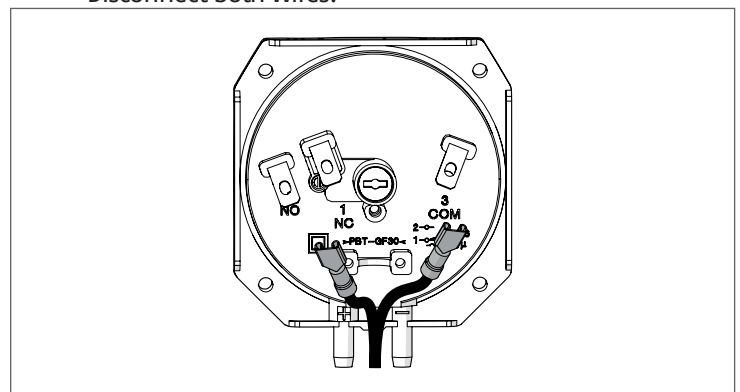
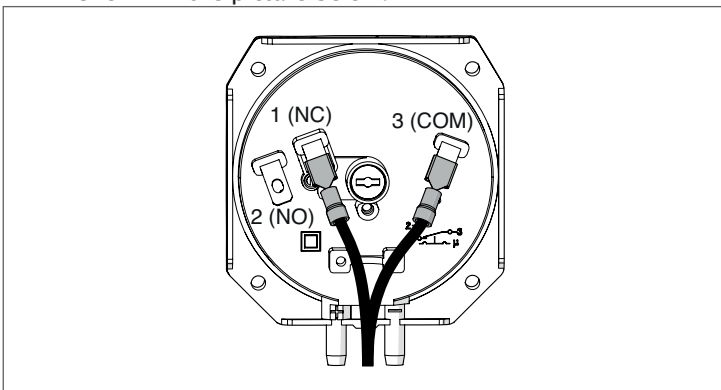

Fig. 64 Disconnect wires
Fig. 67 Wired pressure switch
- Test the pressure switch on the other side of the boiler (module 4 or 8); repeat the process from Fig. 64 through Fig. 67.
- Follow the steps from Fig. 64 through Fig. 67.